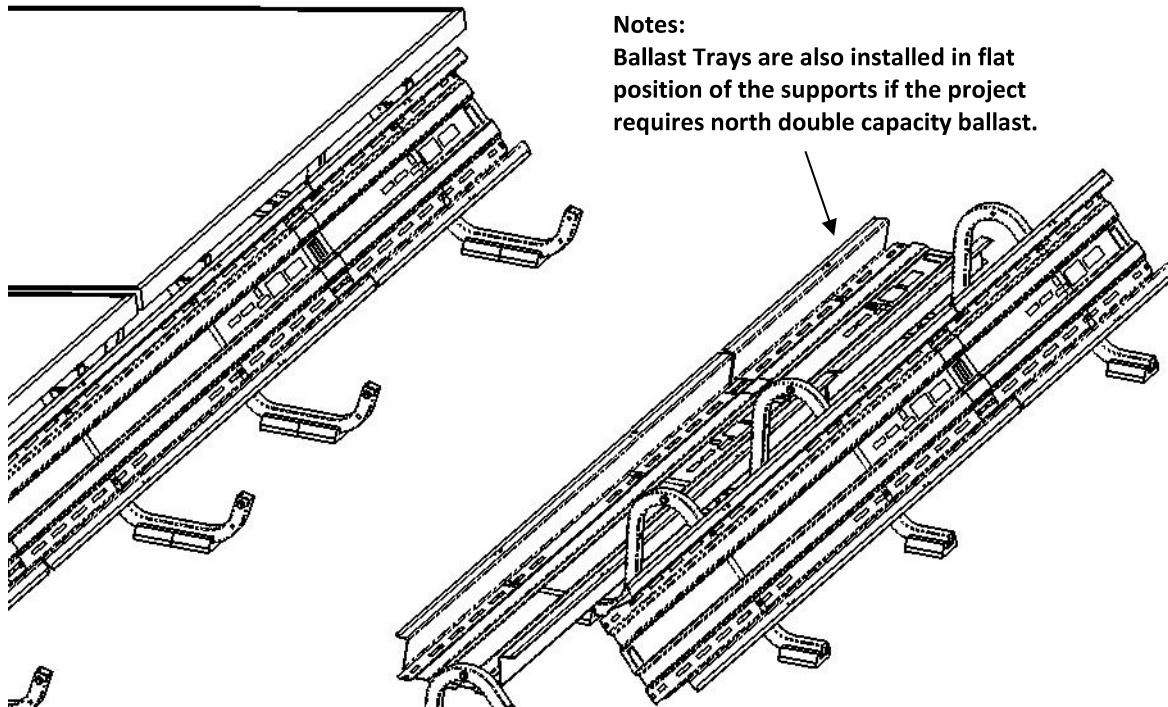

Figure 8 North Double Capacity Ballast Tray Installation
7. Complete the array by constructing row-by-row until the north array edge. The north row in the array utilizes North Supports to secure the high side of the module. If the project requires north double capacity ballast, Ballast Trays are installed in both the inclined position and flat position of the North Supports in a similar fashion to the south array construction. See Figure 8.